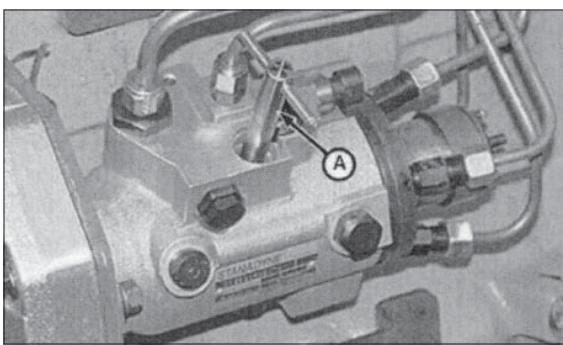

Figure 19 Reproduced by permission of Deere & Company, c.2004. Deere & Company. All reserved.
2. Make sure that the number 1 cylinder is locked at the TDC of the compression stroke and install a timing pin (JDG1571) in the flywheel. Also leave the injection pump timing pin (JDG1559) in during pump installation (Fig. 19 A).
6. Install the injection pump gear access plate and remove timing pin (Fig. 19 A) from the pump. Install a plug in the injection pump timing pin hole and tighten to below specification.